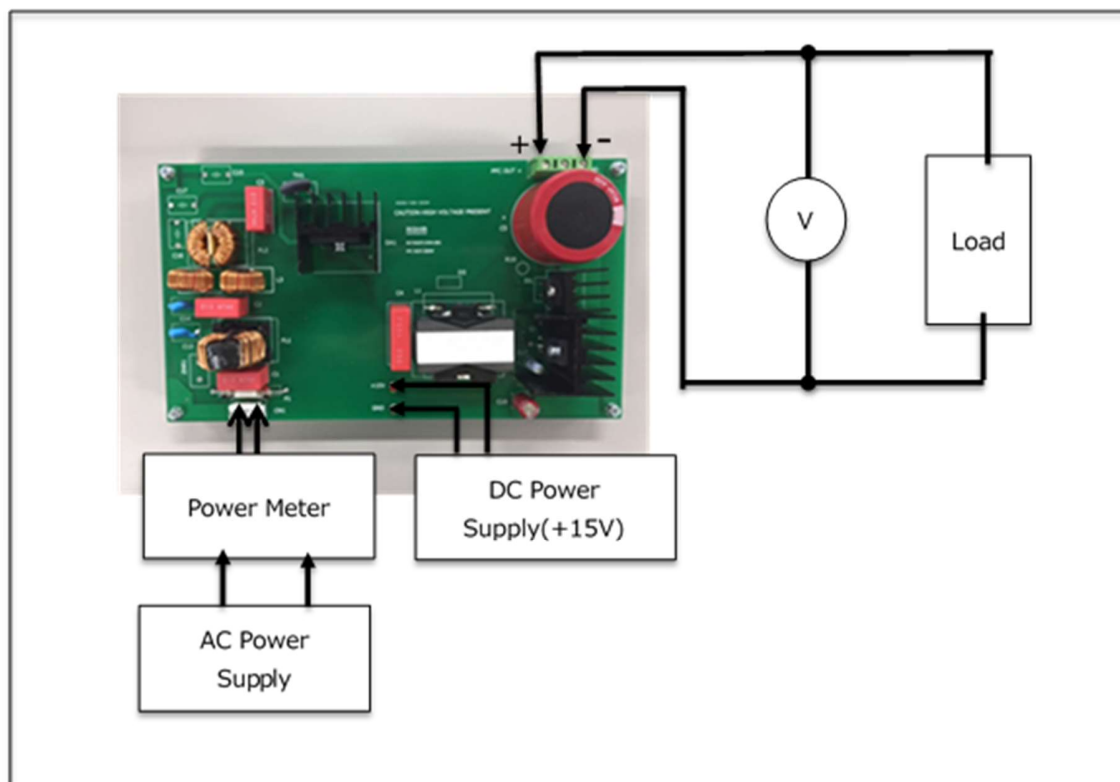

Figure 1. Connection Circuit
- (1) AC power supply presetting range 90 ~ 264 Vac, Output switch is OFF.
- (2) Electronic load setting under 0.5 A, Load switch is OFF.
- (3) The reference board connects to measuring equipments and power supplies as in Fig. 1.
- (4) AC power supply switch is ON.
- (5) DC power supply (+15 V) switch is ON.
- (6) Check that output voltage is 400 V.
- (7) Electronic load switch is ON.
- (8) Operate with enough caution against electric shock because of non-isolated output voltage 400 V.